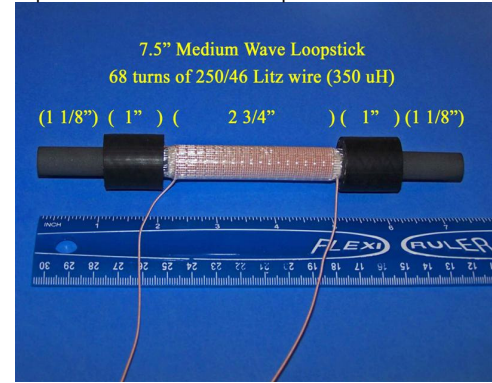

Figure 8
16) Refer to Figure 8 for the following steps. Cut two 1" (25 mm) sections of the 5/8" I.D. rubber hose, and also two 3/4" (19 mm) sections of the 1/2" I.D. clear vinyl hose. Insert the clear vinyl hose sections into the rubber hose sections, centering them in the holes. Place these prepared rubber hose/ clear vinyl sections on the sides of the ferrite rod as shown in Figure 8, with the outer edges of the rubber hose sections 1 1/8" (28 mm) from the edges of the ferrite rod. This completes the preparation of the Medium Wave loopstick—place it in a secure location until it is called for later.